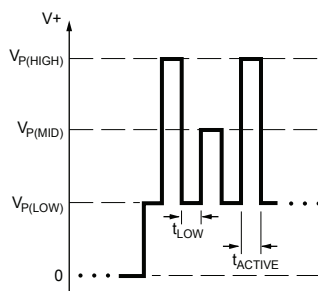

Figure 4. Parameter selection pulse train. This shows the sequence for selecting the register corresponding to key 1, indicated by a single $V_{P(MID)}$ pulse.
Each programmable mode and parameter can be accessed through specific registers. To select a register, a sequence of voltage pulses consisting of a $V_{P(HIGH)}$ pulse, a series of $V_{P(MID)}$ pulses, and a $V_{P(HIGH)}$ pulse (with no VCC supply interruptions) must be applied serially to the supply pin. The quantity of $V_{P(MID)}$ pulses is called the key, and uniquely identifies each register. The pulse train used for selection of the first register, key 1, is shown in figure 4.